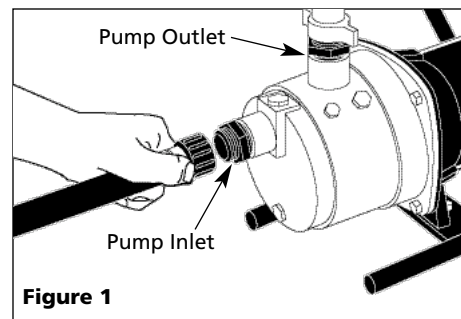

Figure 1
4. Connect inlet pipe or hose to pump. The inlet connection is designed for 1" NPT thread. Rigid pipe such as PVC will work fine for inlet and outlet pipe. (Reminder: Minimize length of pipe and number of fittings.) An adapter for garden hose is included (see Figure 1).
7. Connect outlet pipe or hose to pump. The outlet connection is designed for 1" NPT thread. Rigid pipe such as PVC or garden hose may be used. An adapter to garden hose thread is included (Figure 1).
1. Connect inlet pipe or hose to pump. An adapter to garden hose thread is included (Figure 1).